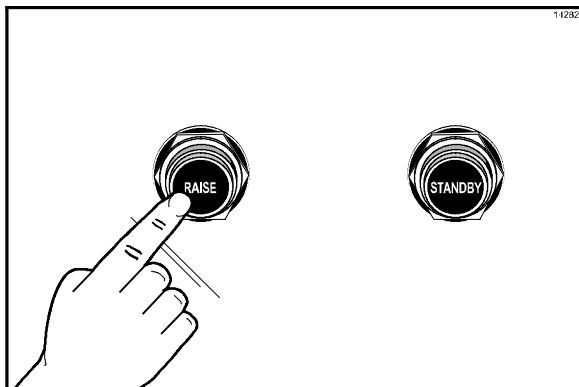

Figure 11
1. Raise the upper platen to the OPEN position by pressing the red RAISE button. (See Figure 11.)